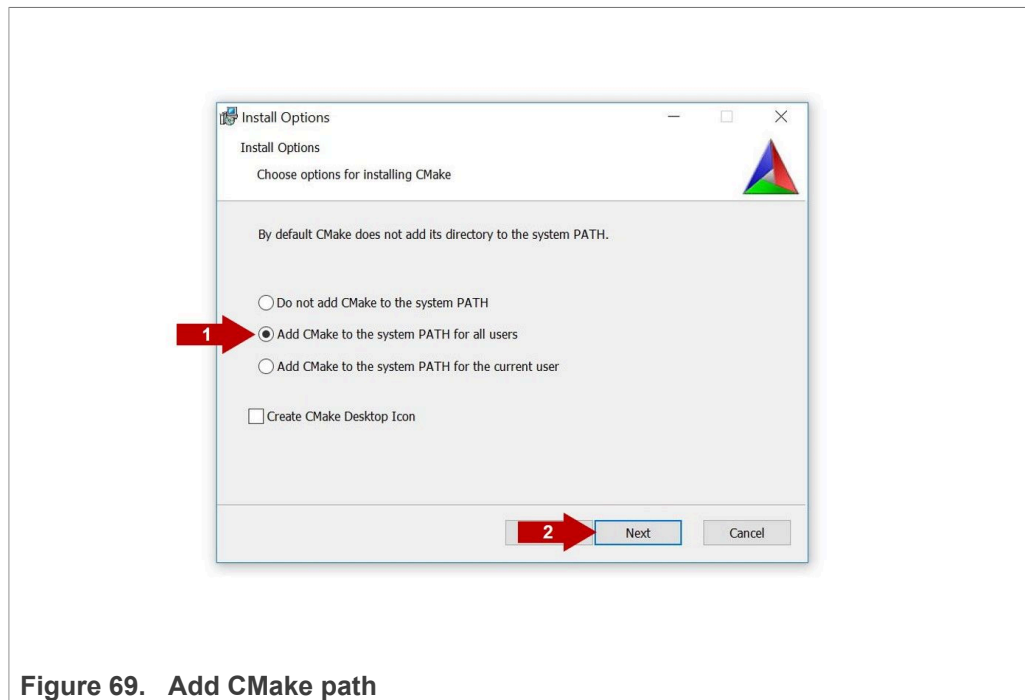

Figure 69. Add CMake path
- As part of the CMake setup, (1) **Add Cmake to the system PATH for all users** and (2) click **Next** as shown in Figure 69: